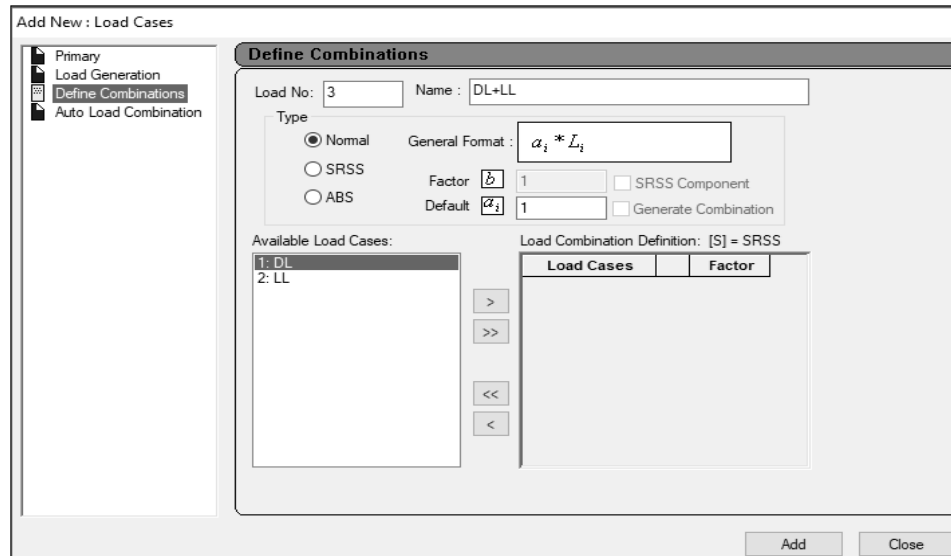

Fig: 3.11
- Load Combination: Load Cases Details → Add → Define Combinations → Name = DL+LL → Default ai = 1, then select DL, LL and click on >> to send right side from left side. (Fig: 3.11)